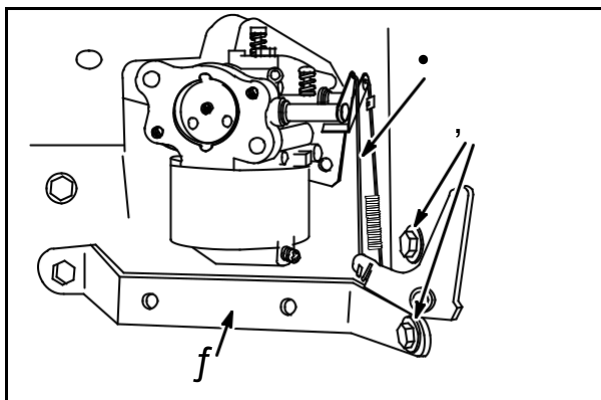

Fig. 9
Remove two screws (2) and choke control bracket, **Fig. 9**.
NOTE: If engine is equipped with anti-afterfire solenoid, air cleaner bracket (3) must be removed BEFORE removing carburetor, **Fig. 9**.